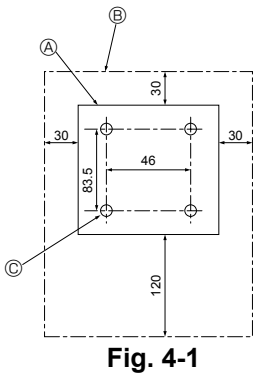

Fig. 4-1
(1) Select an installing position for the remote controller. (Fig. 4-1)
[Fig. 4-1]